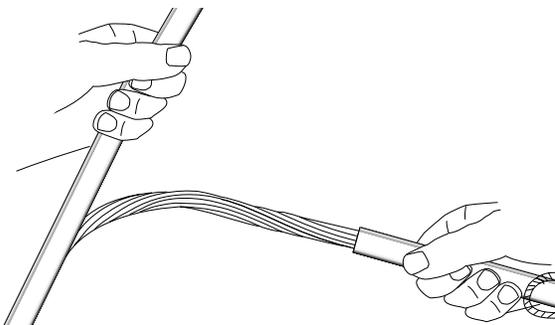

Figure 8
4.7 Follow the sheath removal procedure for the cable you are installing to remove the marked length of outer jacket (Figure 8).